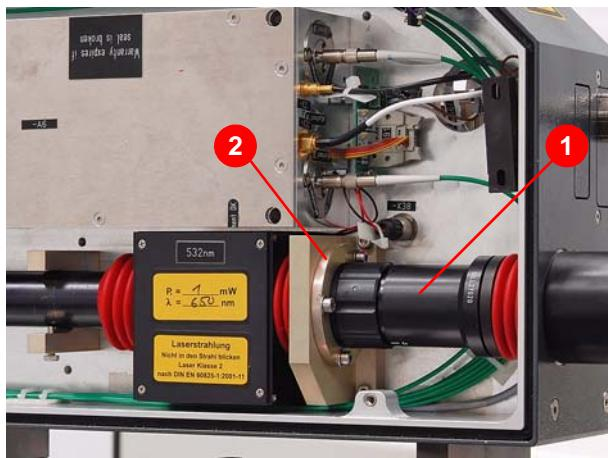

Figure 8.27 Dismantle the beam expander.
6. Remove the beam expander (1) (Figure 8.27) and the mount (2).